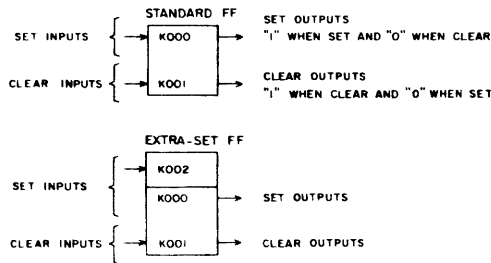

Figure 3. Flip-Flop Symbols
The flip-flop (FF) is a storage device with two stable states - designated as Set and Clear - and is composed of two or more inverters. The logic symbols (Figure 3) are formed by the combination of inverter symbols. By convention, Set inputs and outputs are shown in the upper part of the symbol and Clear inputs and outputs are shown in the lower part of the symbol.
Figure 4 illustrates the interconnection of inverter symbols to form a flip-flop symbol. The term numbers assigned to each flip-flop are the term numbers of the internal inverters as seen by comparing the terms in Figure 3 with those in Figure 4. Notice that the Set output is the output of inverter K001, and the Clear output is the output of inverters K000 and K002.